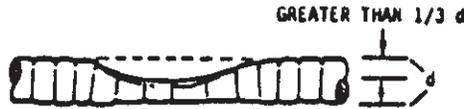

FIGURE 4-44 – Repair Necessary
- b. Tubing shall be repaired if significantly damaged due to impact or crushing as indicated in Figure 4-44.